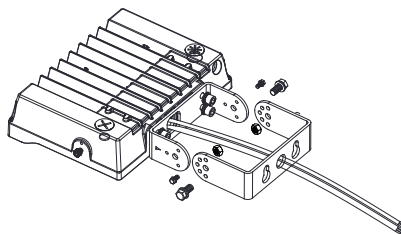

Fig 6.4
Tighten the other bracket with screws. Figure 6.4
Step 2: Tighten the other bracket and screws. Figure 6.4